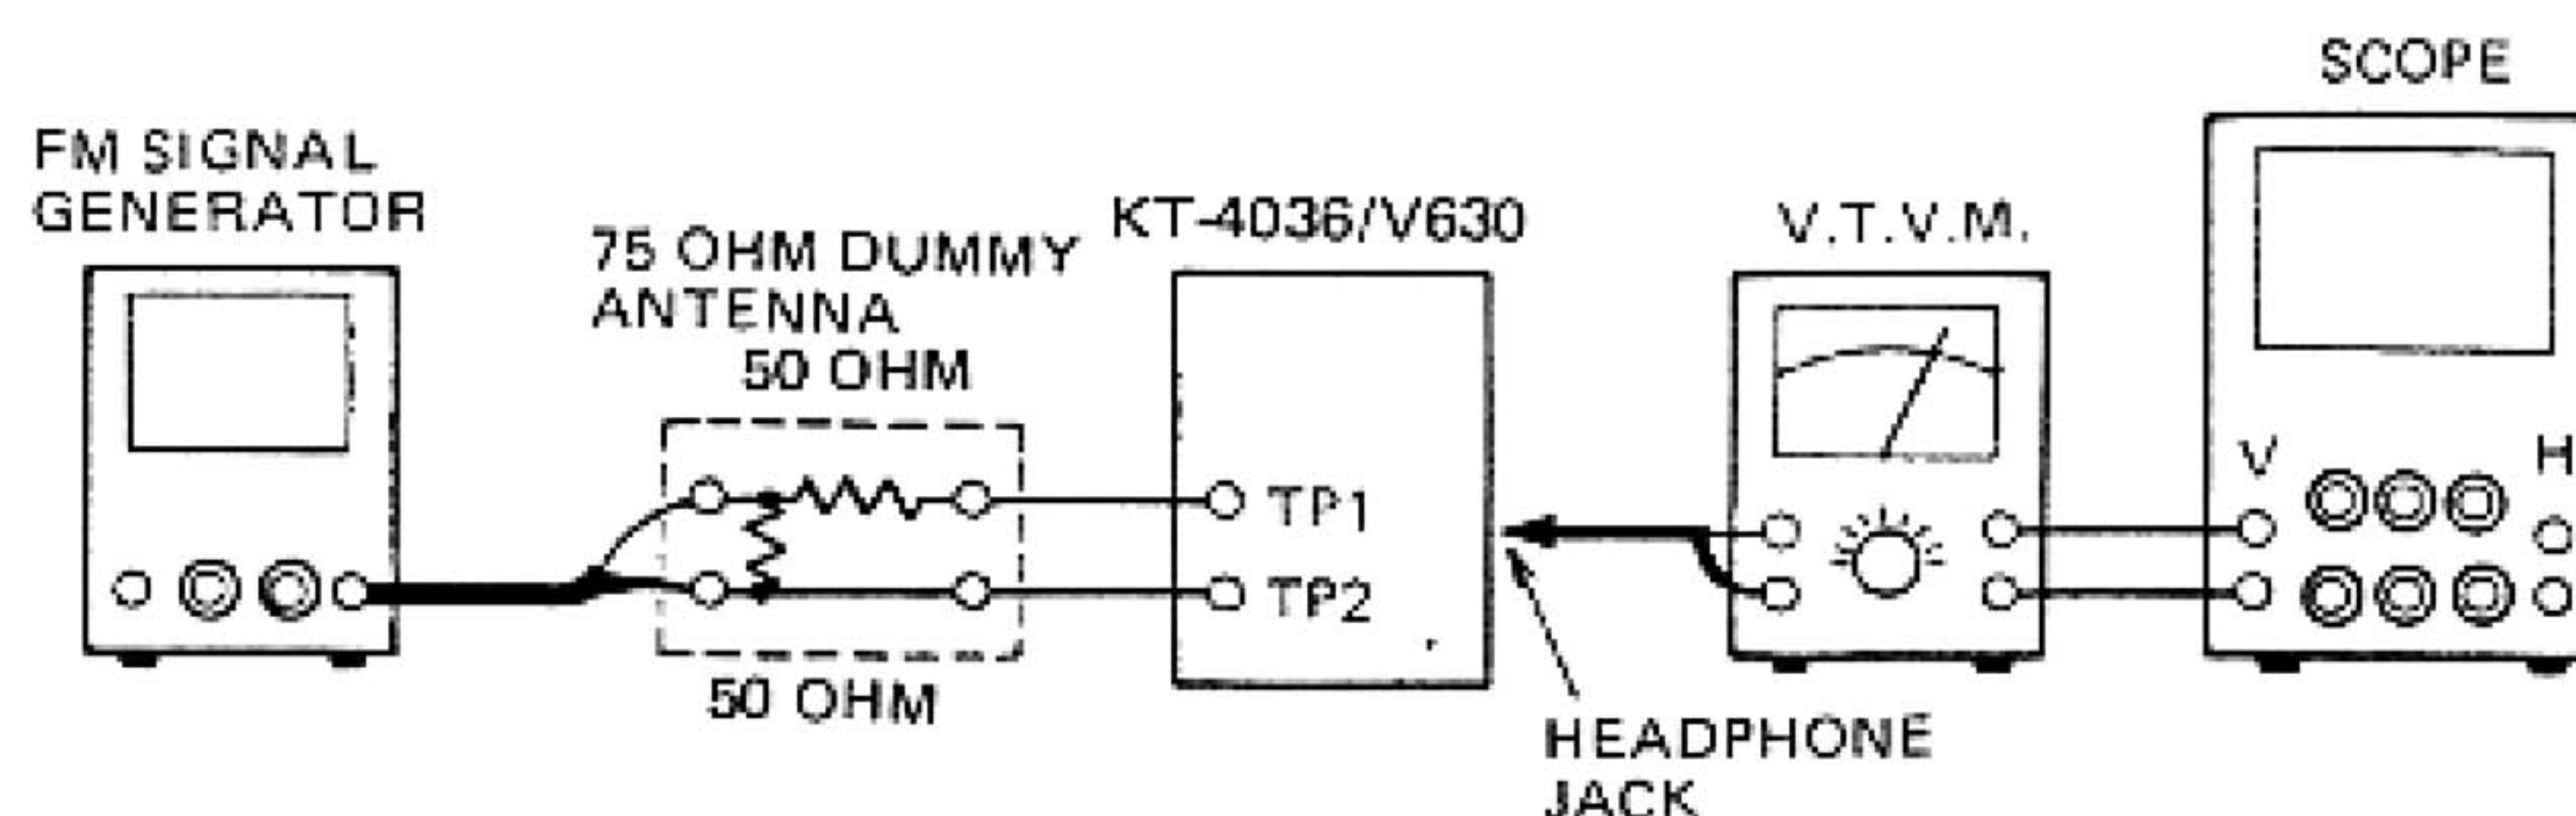

Figure 14
2. Connect the signal-generator output through a 75 ohm dummy antenna across FM antenna. (Figure 14)